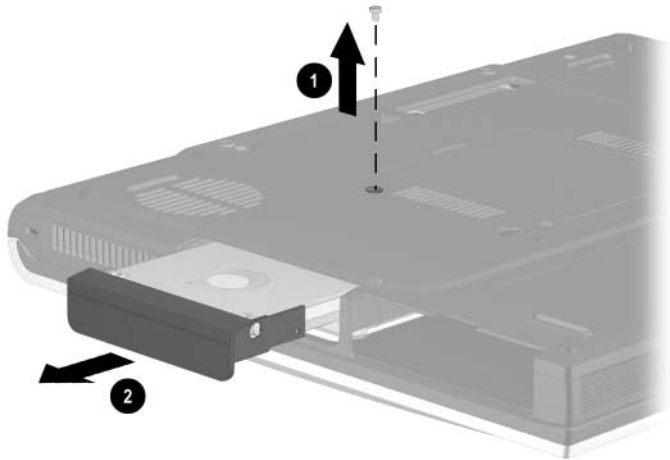

Figure 5-5. Removing the Hard Drive
- b. Remove the PM3.0 × 4.0 hard drive retention screw ❶ (Figure 5-5).
- c. Slide the hard drive forward ❷ to unseat the hard drive connector from the system board.